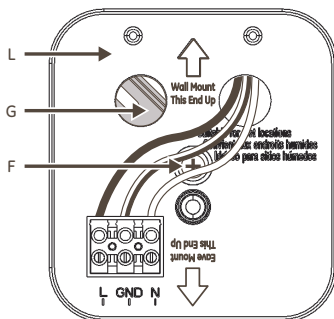

Figure 8
- i. The house power supply wires will have to be cut from the Push-in quick wire connectors, the fixture wires will have to be routed through the correct back mounting plate (L) hole and gasket (H), then re-connected to the house power supply using standard wire nuts, not provided.
- 9) Install the back mounting plate (L):
- a. Observing the directional arrow on the back mounting plate (L) for the selected wall or eave mount installation, position the back mounting plate (L) with the selected installation arrow in the indicated direction over the mounting bracket (G) attached to the junction box (see **Figure 8**).
- b. Arrange the wires inside the junction box. Ensure all wires are fed into the junction box and are not “pinched” under the edges of the back mounting plate (L) or mounting bracket (G).
- c. Insert the mounting bolt (F) through the back mounting plate (L), through the gasket (H) and thread it into the center hole of the mounting bracket (G) (see **Figure 8**).
- d. Tighten, by hand with Phillips screwdriver, the mounting bolt (F) securely. Do not overtighten or use an electric screwdriver as this may crack the back mounting plate (L).